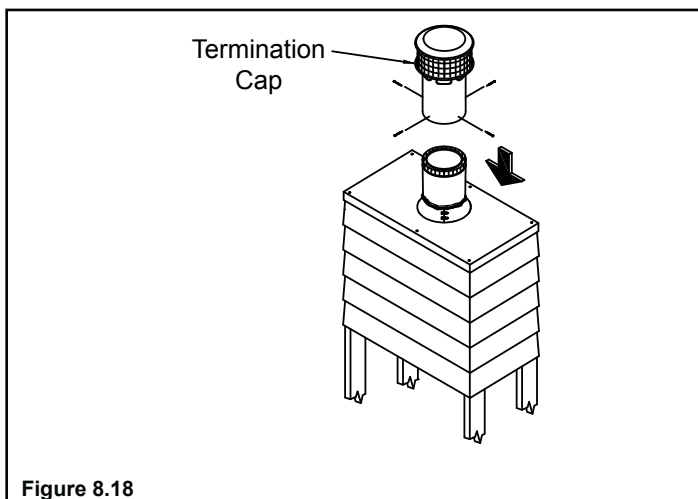

Figure 8.18
- Attach the chimney cap onto the top of the chimney by setting the female end of the cap onto the male end of the last chimney section. Secure the cap by using four sheet metal screws (provided, Figure 8.18.)